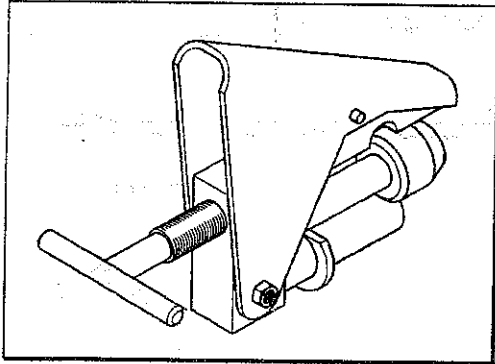

Fig.6
1.8 ACCESSORIES ON REQUEST**#4021852 Clamp for light-alloy rims (Fig.6).**